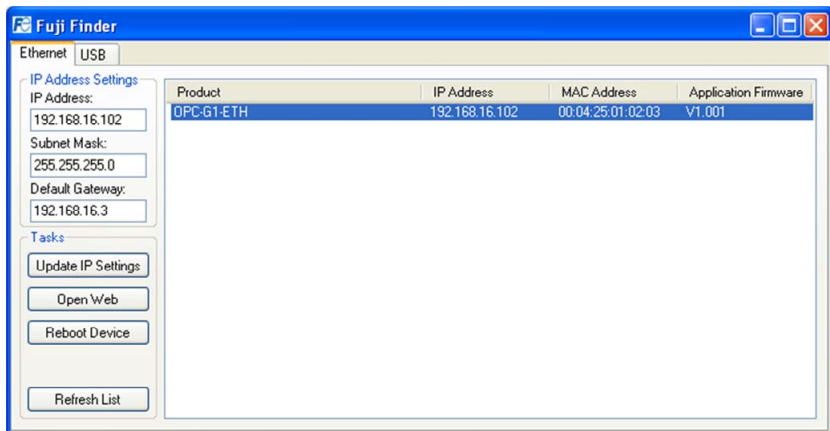
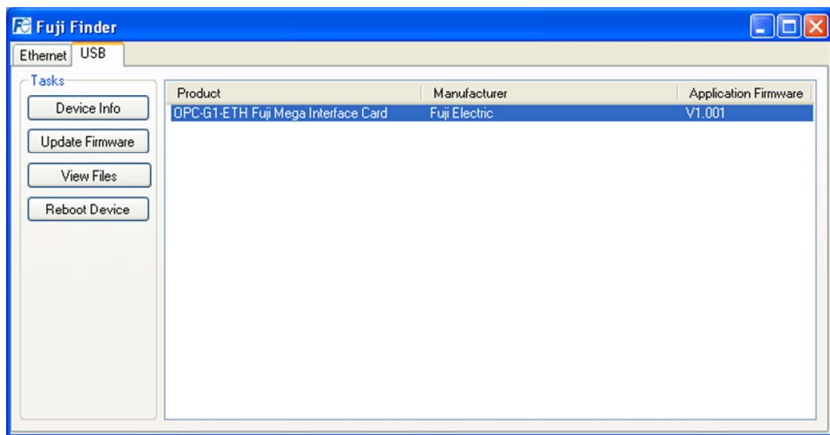

Figure 20: Fuji Finder Ethernet tab
Figure 21: Fuji Finder USB tab
The “Fuji Finder” application is a simple Windows PC program, which when executed discovers all OPC-G1-ETH cards on the current Ethernet subnet, regardless of whether or not their network parameters are currently compatible with the subnet upon which they reside. The utility is also used to update firmware. These functions are accessed via two tabs available on the Finder application main program window (refer to Figure 20 and Figure 21.)
3. The Finder application will scan the Ethernet network for Fuji devices and then display each device's information on the "Ethernet" tab. Refer to Figure 20. If multiple devices are discovered, identify the targeted device via its unique **MAC address** (printed on a barcode label on the left-hand side of the interface card).